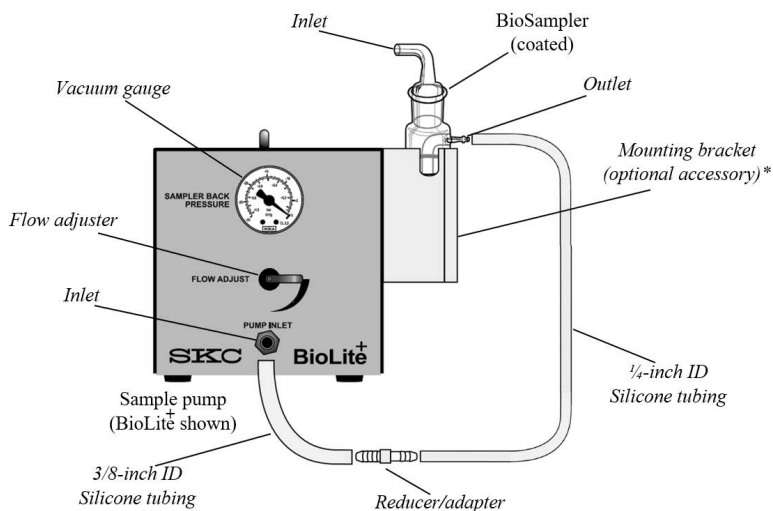

Figure 4. Sampling Train with Coated Collection Vessel
- b. If using a coated collection vessel (Figure 4),** connect the BioSampler outlet (nozzle section) to the sample pump inlet as shown in Figure 4.